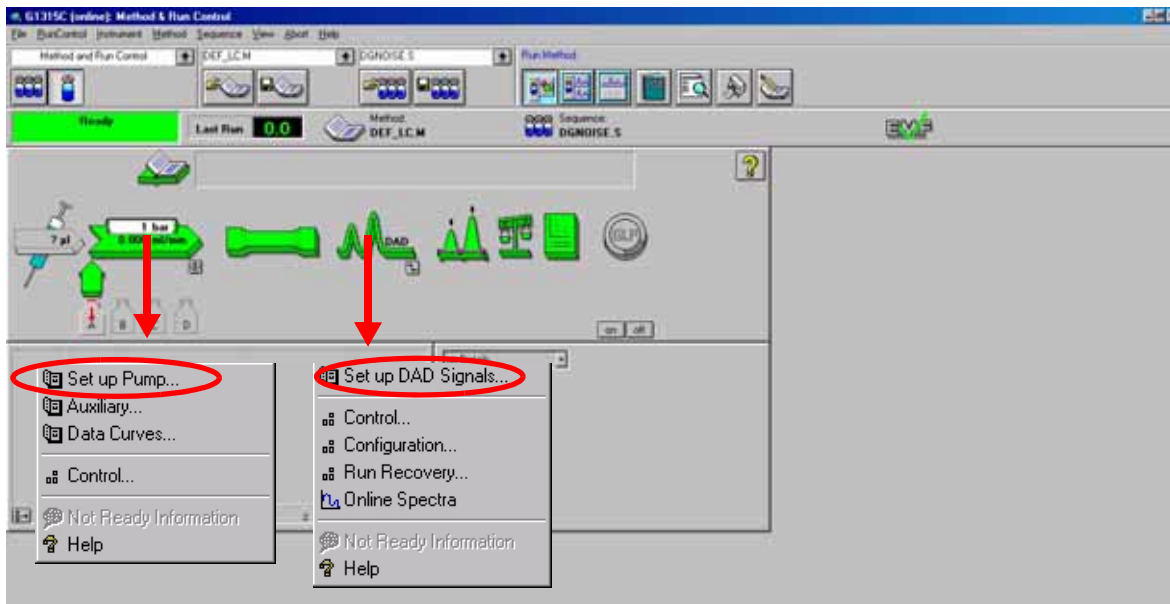

Figure 36 Open the module menu
- Click on the module icons (Figure 36) and open the *Setup* of these modules. Figure 37 on page 68 shows the detector settings (do not change the detector parameters at this time).